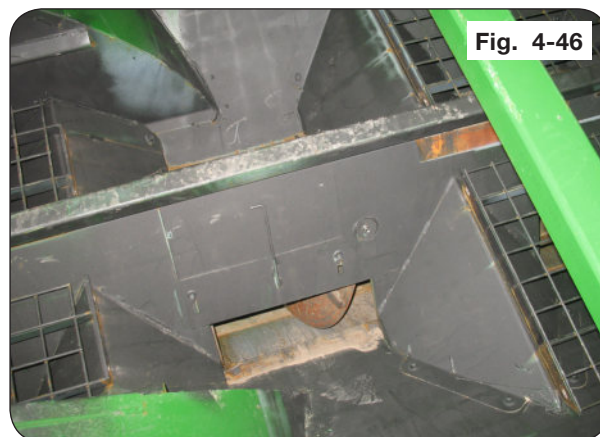

Fig. 4-46
2. Remove the flange screws in both middle grates inside the cart. Remove the grates. (Fig. 4-46)